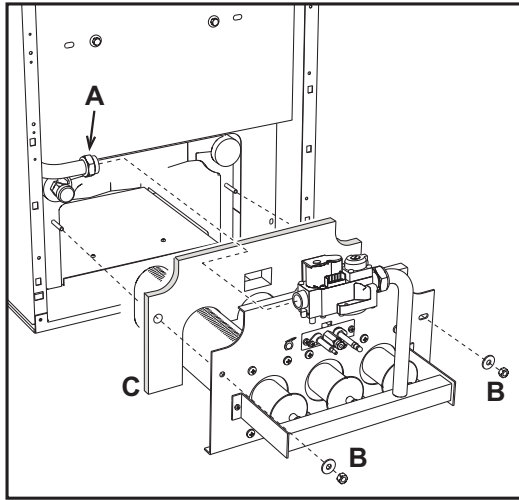

fig. 21 - Removing the burners
- Undo the two nuts "B" fixing the combustion chamber door to the cast iron elements of the boiler (fig. 21).